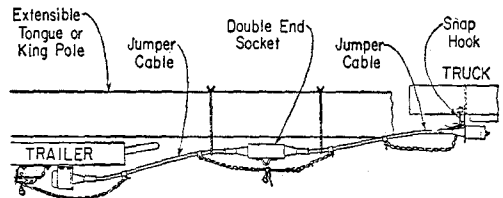

Fig. 7—Typical Electrical Connections
**6.03** Figure 7 shows jumper cables used on: